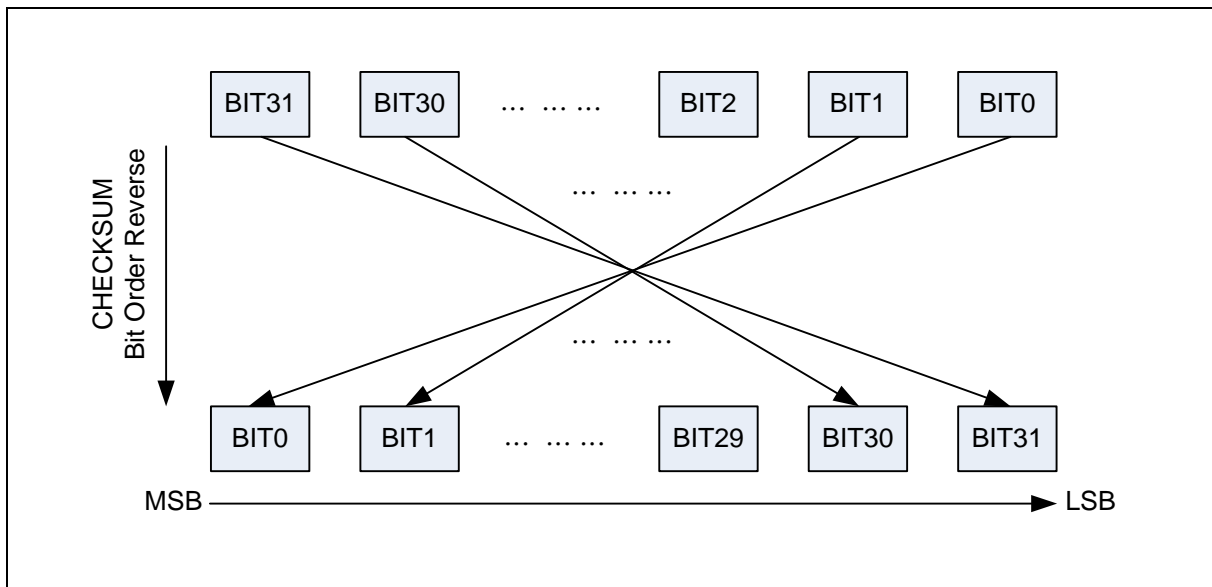

Figure 6.7-2 CHECKSUM Bit Order Reverse Functional Block
- Configure bit order reverse for CRC checksum by setting CHKSREV (CRC_CTL[25]). The functional block is also shown in Figure 6.7-2.